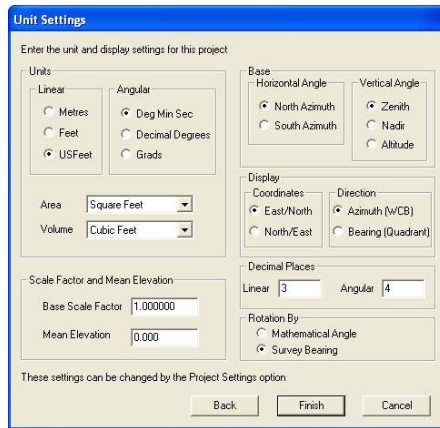

Figure 5-5. Unit Settings
2. On the **Unit Settings** dialog box (Figure 5-5 on page 5-6), modify the unit settings as needed, and then press **Finish**.